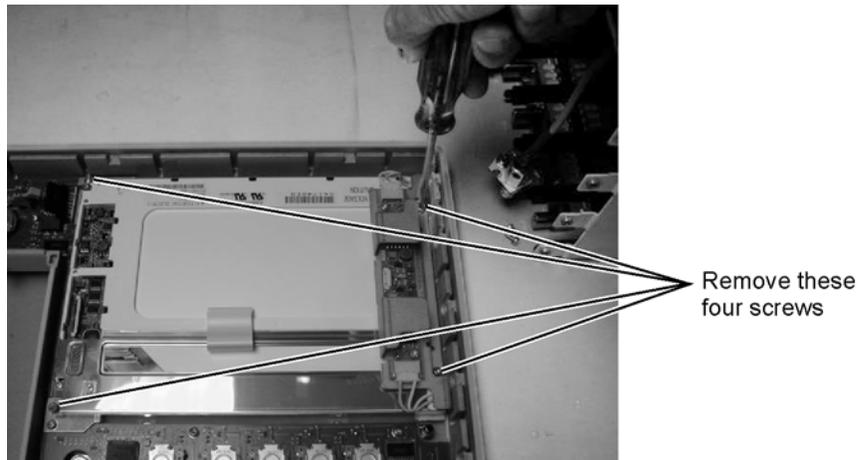

Figure 7-25. Removing the Display Screws
- 2 Use a T-10 TORX driver to remove the four screws that secure the display to the front panel, as shown in Figure 7-25.